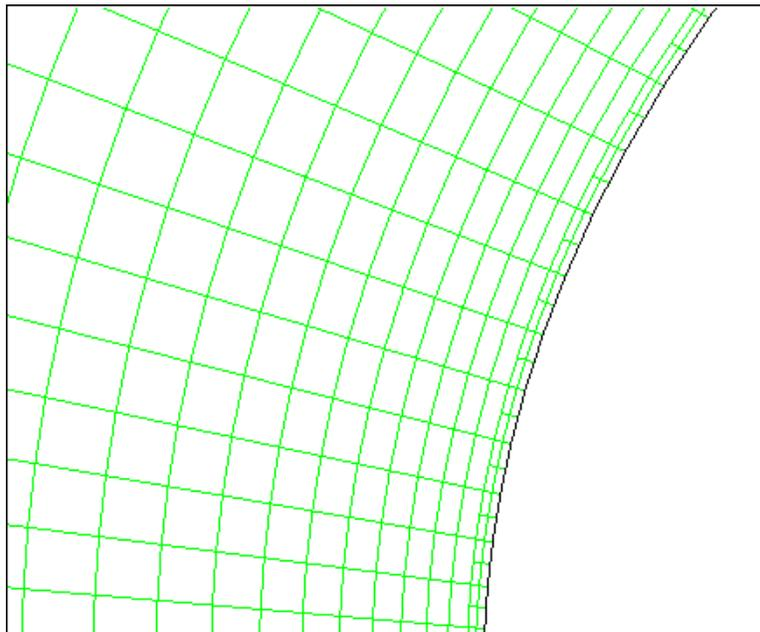

Figure 5.8: Adapted Grid
*FLUENT will break each cell into four parts such that the first cell is at half the distance as compared to the original mesh, as shown in Figure 5.8. It can be seen that a non-conformality exists in the mesh after adaptation.*